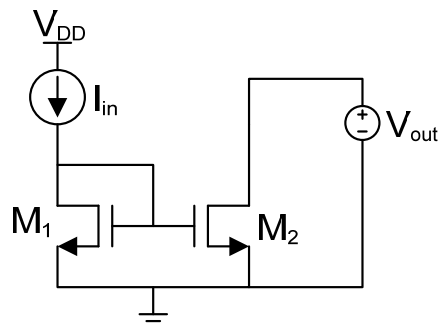
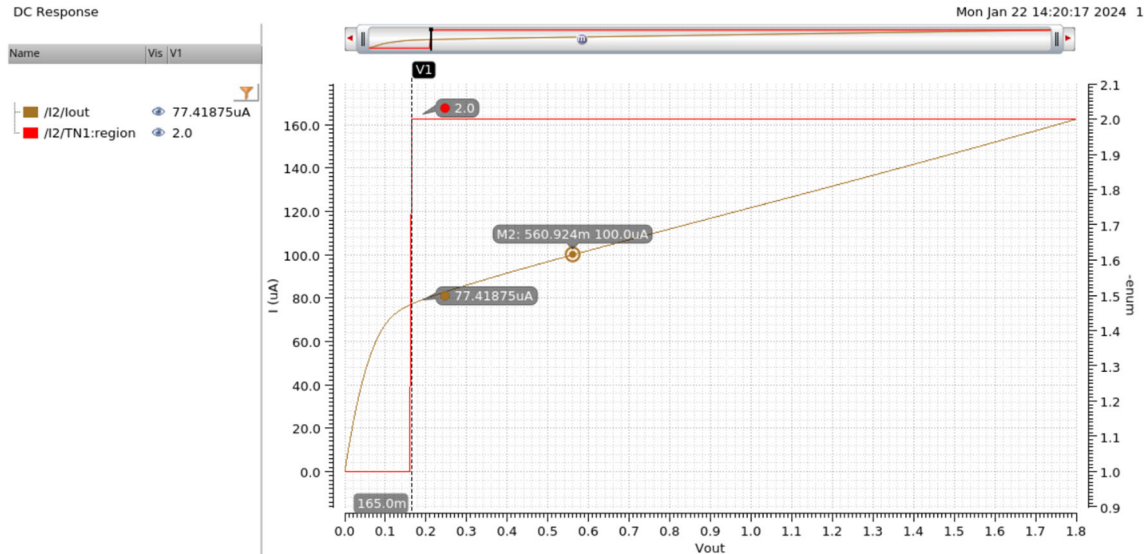
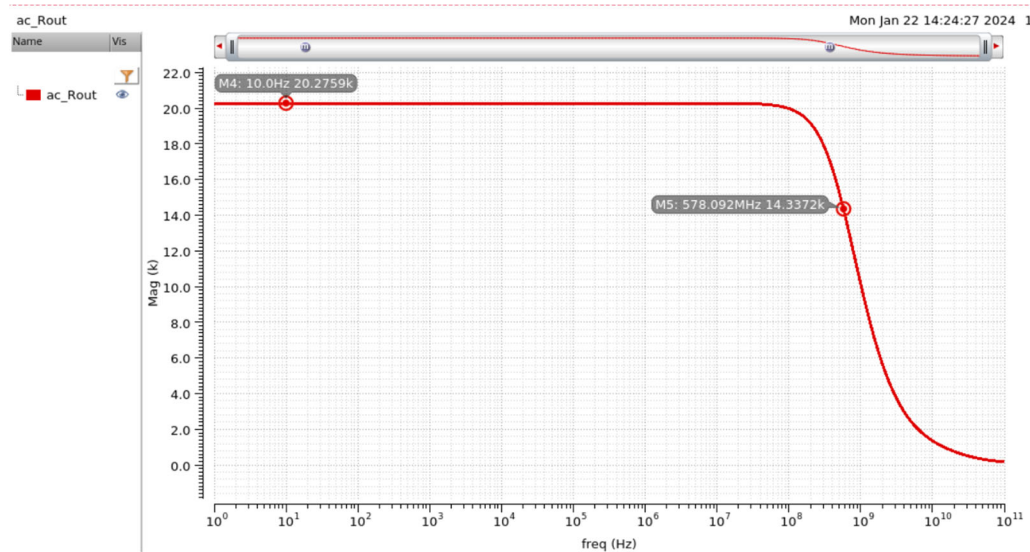

Figure 5-4: Current Mirror Test Configuration
Figure 5-5: Current Mirror Simulation Results for Compliance Voltage
Figure 5-6: Plot of Simple Current Mirror Output Impedance
Once a current mirror has been designed using hand calculations, use the test configuration in Figure 5-4, where I_{in} is the reference DC current and V_{out} is a DC voltage source that will be varied in a DC sweep simulation. After running the simulation, plot I_{D2} (if necessary, refer back to Lab 1 for more information regarding the plotting of signals). The resulting I_{D2} versus V_{out} plot should resemble Figure 5-5. The compliance voltage will be the point on the plots where the slope of I_{out} begins to change rapidly, indicating that the output transistor is entering the active region of operation (see the “Operating Region of Transistors in Cadence” section for a method of quantifying this boundary). On the plot, mark the compliance voltage and the voltage at which I_{D2} is equal to the desired output current level. **Note that you will likely want to utilize a smaller step size in the DC sweep to get greater resolution of the compliance voltage. Change the “sweep type” setting in the DC sweep setup to “Linear” rather than “Automatic” and set the step size or number of steps to a suitable value for more clearly determining whether your current mirror satisfies the specifications.** The choice of variable step size can be thought of as a sampling problem: consider the approximate width (in terms of the sweep variable or x-axis variable) of the feature you are trying to identify, then select a step size which is *less than* half of that feature width to gain enough resolution in the sweep for accurately viewing the desired features of the plot.
To plot the output impedance, go to *Tools* → *Calculator*. First, click on “vf” on the Calculator and then the output node (wire) on the schematic. Second, click on “if” on the Calculator and then the (-) terminal of the voltage source V_{out} on the schematic. Finally, click on “/” on the calculator, and then *Tools* → *Plot*. Refer to the Appendix in the Lab 1 manual for more information regarding the saving and construction of output expressions. The output impedance plot should resemble Figure 5-6. In this example the output impedance is about 20 k Ω at low frequencies with a pole in the response located slightly below 600 MHz.
- b) Generate the plots of Figure 5-5 and Figure 5-6 for this design. Determine the compliance voltage, low frequency output impedance, and comment on accuracy.
- b) Generate the plots of Figure 5-5 and Figure 5-6 for this design. Determine the compliance voltage, low frequency output impedance and comment on the accuracy.